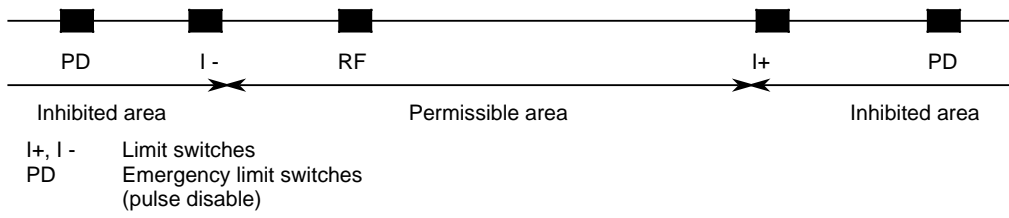

Figure 5-2. Arrangement of Limit Switches and Emergency Limit Switches
Check once more the function of your emergency OFF facility as well as the limit switches and the emergency limit switches (PD) before you switch the plant on. The emergency limit switches must always be connected in series. The limit switch actuators (on machine slides, etc.) must be located on axes within the switching range (Figure 5.2.). If this is not the case, you must rotate the axes manually to within the desired range.